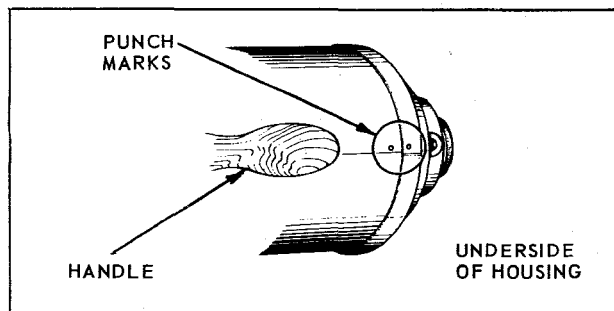

Figure 4.
- On single phase machines, with someone holding the fibre knob (243), insert the knife key handle into the hole in the face of the crank. Tap against the key handle in the direction shown by the arrow on the crank until the crank loosens on the armature shaft. The crank has a left-hand thread.
- On the new style three phase machines, remove the fibre knob (243) and insert a  $\frac{1}{4}$ " Allen wrench, which is the same Allen wrench used for the standard bolts (254). The crank is secured by a long bolt extending through the armature shaft. Insert the Allen wrench into the head of the bolt and, holding the crank, turn the wrench counter-clockwise. As the bolt is being removed, occasionally tap it lightly on the end to push the crank forward.
- On the old style three phase machines, you will notice a clearance hole in the left side of the front housing. Insert a  $\frac{5}{32}$ " Allen wrench through this hole to loosen the two screws in the shoulder of the crank. Then insert two  $\frac{1}{4}$ " - 20 screws 2" long in the two threaded holes in the face of the crank. Remove the crank from the shaft by alternately screwing each of these screws a few turns at a time until the crank comes off. To replace the crank, remove the two  $\frac{1}{4}$ " - 20 screws and match the keyway in the crank with the key on the armature shaft. Tap the crank back onto the shaft, being sure to turn the fibre knob (243) when tapping to prevent the crank from cocking. Then tighten the two Allen set screws.
- Back motor bearing (244). It is necessary first to remove the back housing (245) and then push the bearing out. Replace the back housing and tighten the motor bolts. Then put in the new back bearing. When installing a new bearing, place the old bearing behind it while tapping it into the back housing. Rotate the old bearing when tapping so that the pressure will be evenly distributed. In this way, neither the inner nor the outer race of the new bearing will be harmed.
- Front motor bearing (210). Remove the armature after removing crank and back housing. Unscrew the bearing lock (211) and then push the bearing forward and out. Install the new bearing as described in 5 a
- Crank pin bearing (215). Remove the bearing lock (216) on the face of the crank, remove the screw in the back of the crank and tap the bearing out.
- The motor cylinder (236) should be replaced on the front housing (233) so that the nameplates on both sides are in the same horizontal plane.
- The back housing has a punch mark on the underside which matches a punch mark on the motor cylinder. Be sure that these two marks are in line with one another when replacing the back housing on the motor cylinder. Otherwise, the motor will not function properly. See Figure 4.